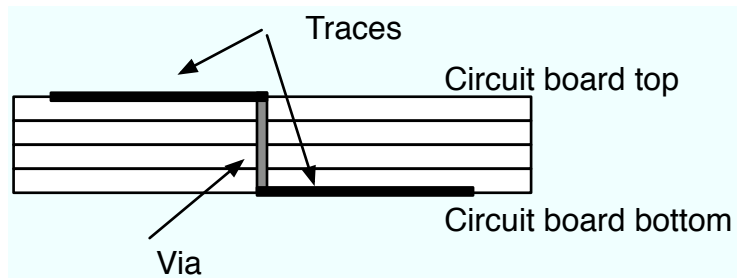

Figure 9.2: A PCB side view showing traces connection with a via
- **Vias** - One problem with traces on a printed circuit board is that they are purely two dimensional. There is no way to jump a trace over another one. This presents a problem when there get to be a large number of traces—how do you connect up components where the traces need to jump over each other? The answer is with *vias*. Vias are small holes that have been drilled in the board. A small copper ring lines the hole, and runs through the board all the way to the other side. Vias allow traces to become three dimensional. A side view of a PCB showing traces and a via is shown in Figure 9.2.